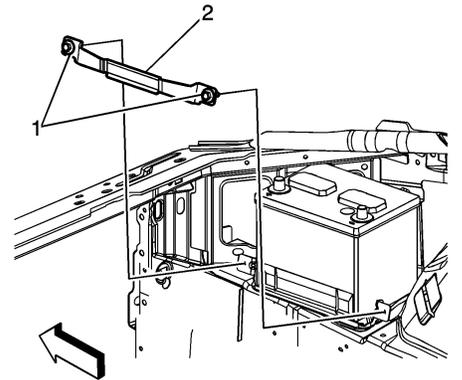

Fig. 5 Battery retainer removal
14. Remove battery retainer bolts and retainer, **Fig. 5**.
4. Install battery retainer and bolts, **Fig. 5**. **Torque** bolts to 13 ft. lbs.